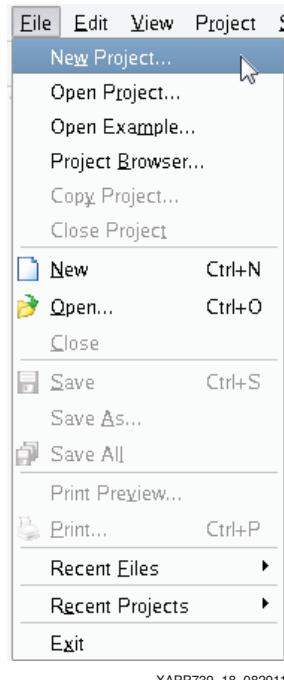

Figure 18: Creating a New Project in Project Navigator
4. Create a new Project by selecting **File > New Project** (Figure 18).